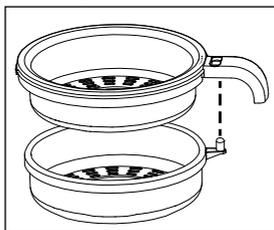

Fig. 1
- ◆ Assemble the sieve attachment **4/5**. To do this, place the two parts on top of each other in such a way that the selector switch **6** juts through the corresponding opening of the upper part **4** (Fig. 1). Push the two sections together until they click together.